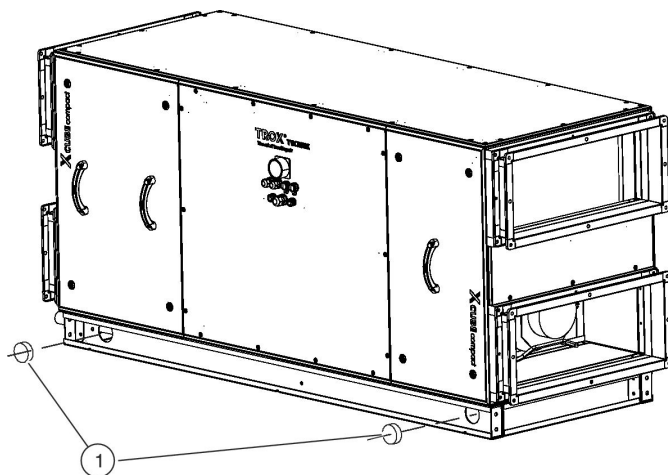

Fig. 19: Fitting plugs
4. ▶ Seal the transport openings in the base frame of the air handling unit with the plugs ( Fig. 19 /1) provided.